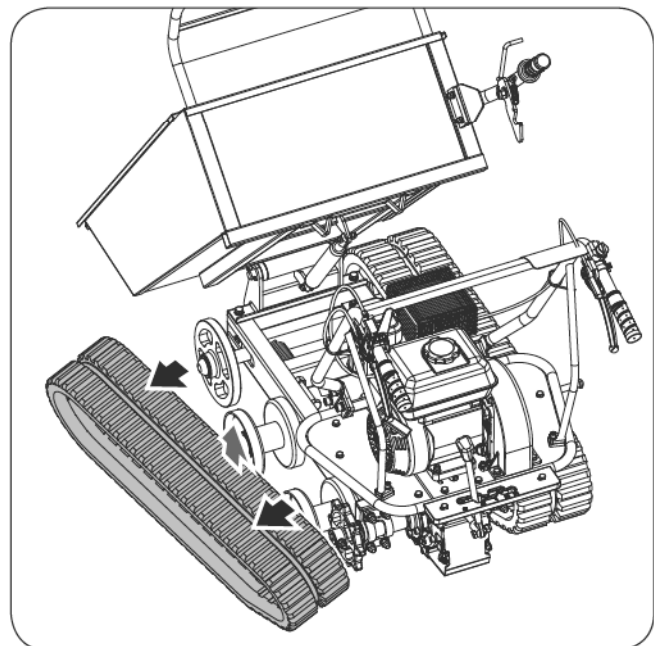

Figure 9c
4. Pull out the whole track. (See Figure 9c)